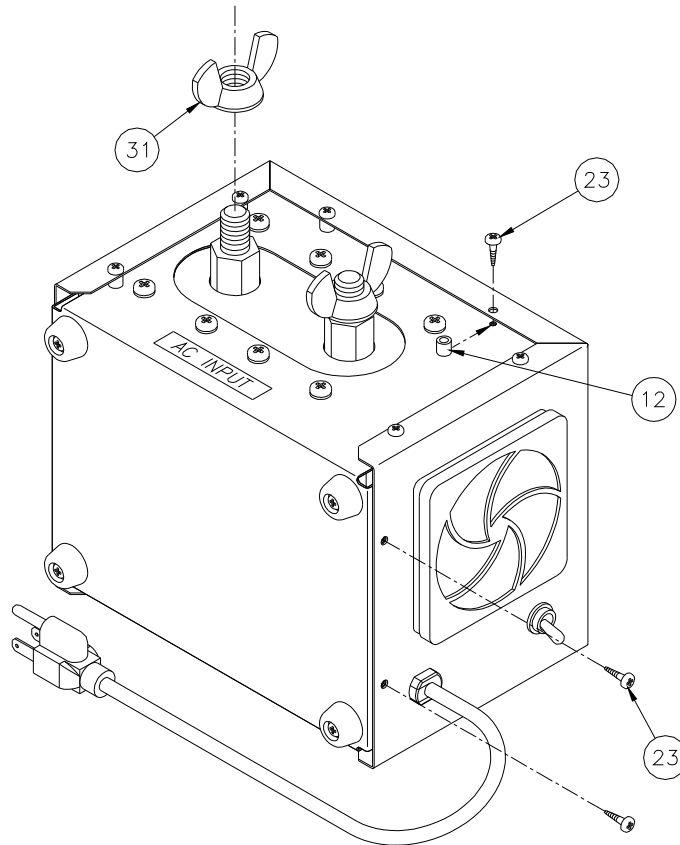

FIGURE 12
- b) Lay the DC Cheater on its side as shown in Figure 12. Carefully slide **Item 12** (Spacer) into place between the top and bottom covers. A screwdriver is helpful in positioning the spacer. Don't push the spacer too far or it will fall into the case. When the spacer is in place, loosely install **Item 23** (#6 x $\frac{1}{2}$ " pan head tapping screw). Repeat the procedure for the other five holes on this side, and the six holes on the other side. Tighten the twelve screws installed in this step and the four screws installed in Step 12-a.